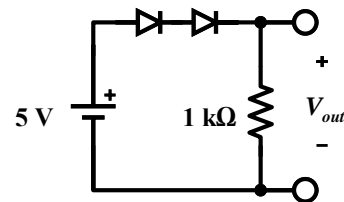

Figure 1-8 – Series-connected diodes
Since forward-biased diodes have a relatively constant voltage drop, series combinations are sometimes used in circuits to shift the DC level up or down by a fixed amount. Consider the circuit in Figure 1-8; can you predict the output voltage?
- Construct the circuit in Figure 1-8 using 1N4148s or 1N4005s, and record the output voltage in each case. Decrease the resistance in the circuit by a factor of two by adding an identical resistor in parallel; record the output voltages again.